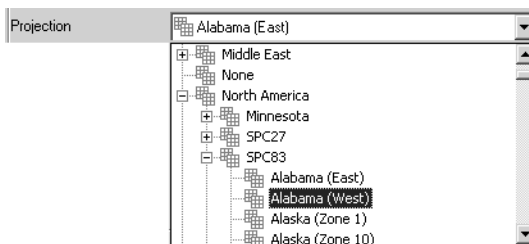

Figure 3-72. Projection List
- the Projection type (Figure 3-72).